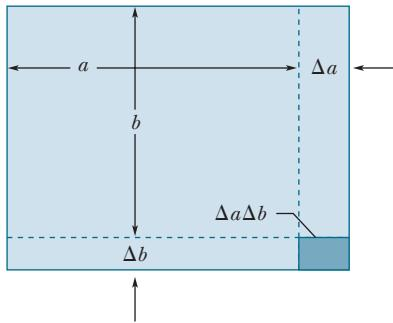

Figure 18-61 Problem 103.
**103** The area  $A$  of a rectangular plate is  $ab = 1.4 \text{ m}^2$ . Its coefficient of linear expansion is  $\alpha = 32 \times 10^{-6}/\text{C}^{\circ}$ . After a temperature rise  $\Delta T = 89^{\circ}\text{C}$ , side  $a$  is longer by  $\Delta a$  and side  $b$  is longer by  $\Delta b$  (Fig. 18-61). Neglecting the small quantity  $(\Delta a \Delta b)/ab$ , find  $\Delta A$ .